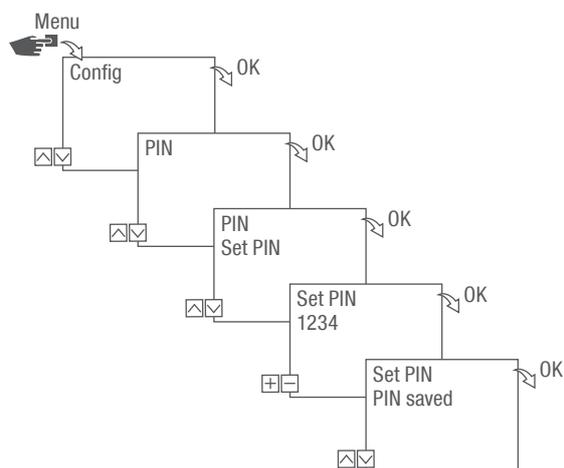

Fig. 15: Specifying the PIN
5. Press the **Bluetooth** button (Fig. 15/1) on the DIN-rail timer.